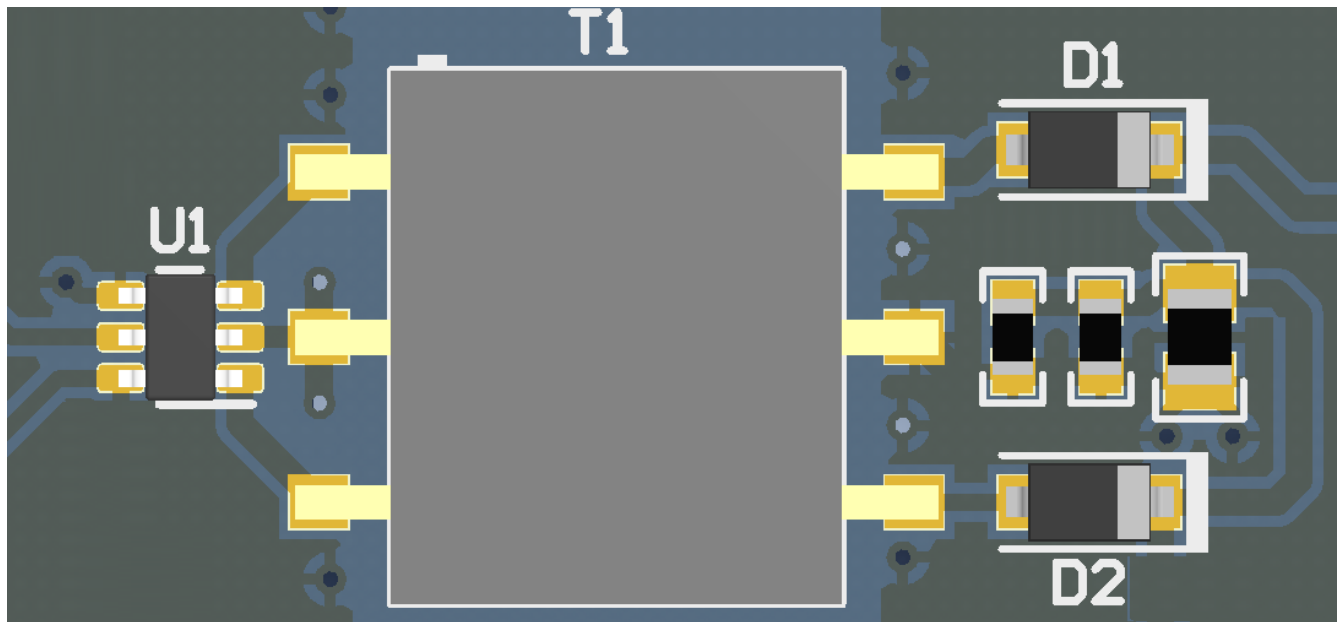

Figure 11-1. Layout Example of a 2-Layer Board
- The optimum placement is closest to the V_{IN} and GND pins at the board entrance to minimize the loop area formed by the bypass-capacitor connection, the V_{IN} terminal, and the GND pin. See Figure 11-1 for a PCB layout example.